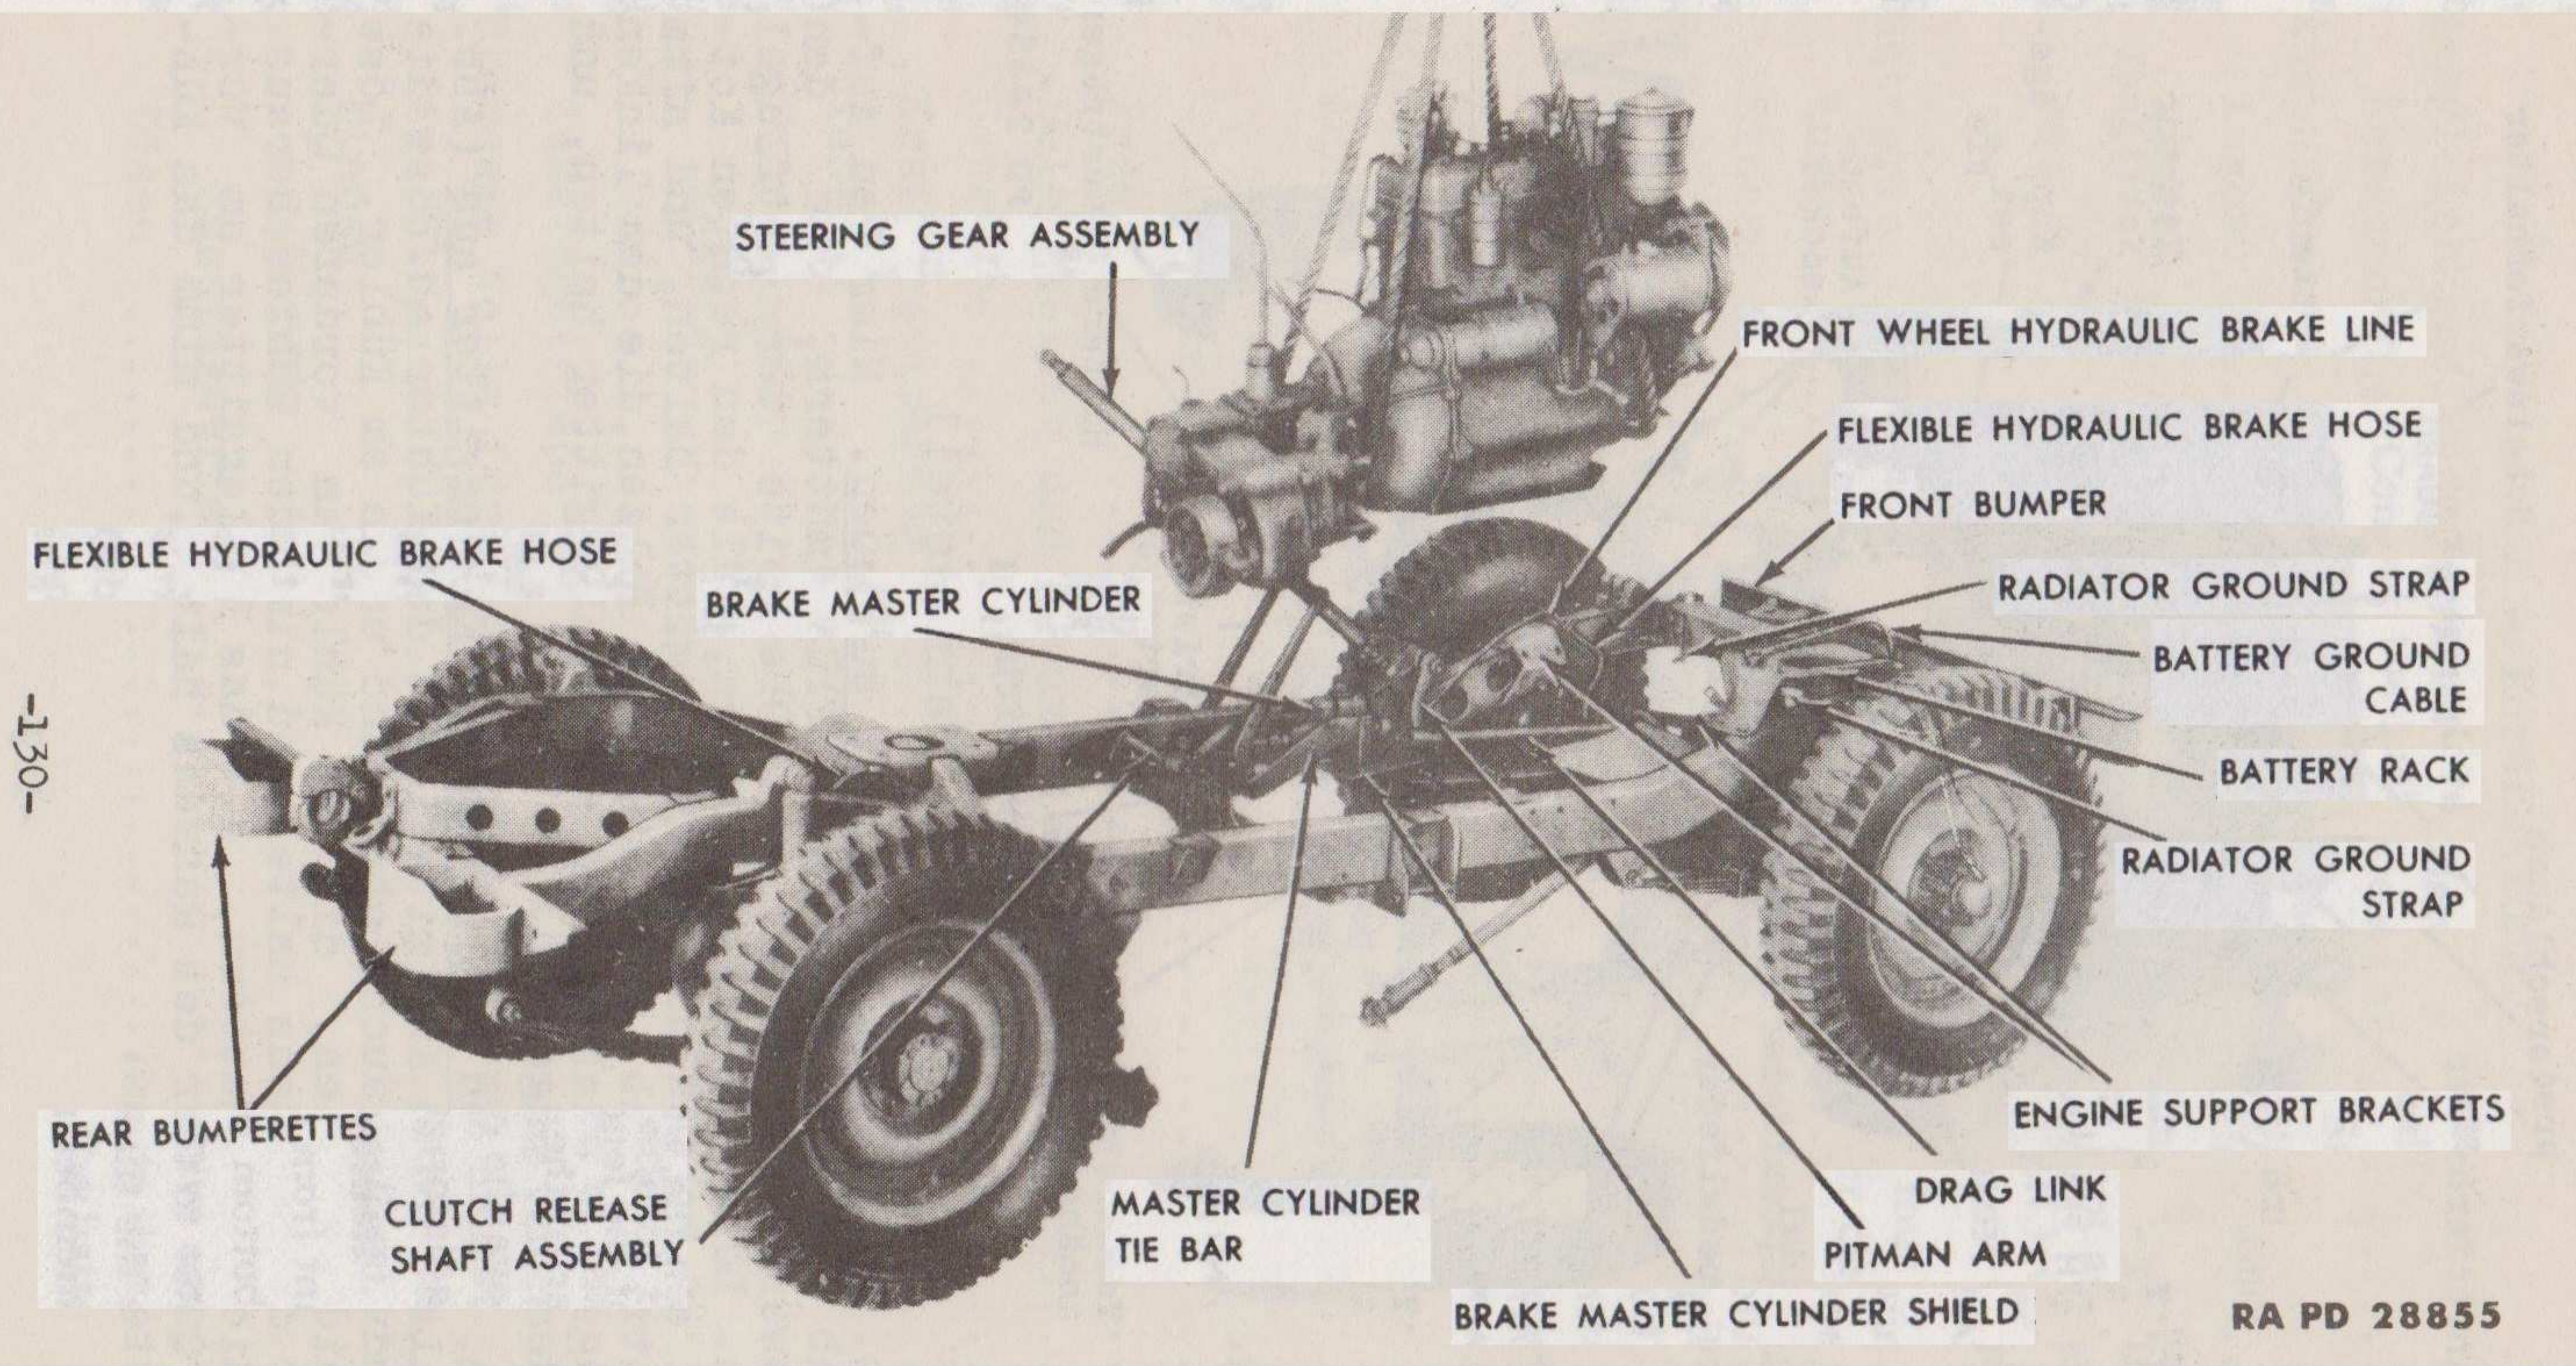

Figure 104 — Removing Engine From Chassis
(3) **CONNECT DRAG LINK** (fig. 104). With the front wheels in a straight ahead position, connect the drag link to the Pitman arm, making sure the ball socket on the Pitman arm is between the socket and ball seat (fig. 99). Tighten the socket plug and install the cotter pin. Tighten the three steering gear hold-down bolts at the frame.
f. Remove Front and Rear Bumpers (fig. 104). Remove the eight nuts and bolts that secure the two rear bumperettes to the rear crossmember of the frame and remove the bumperettes. Remove the four nuts and bolts that secure the front bumper bar to the frame and remove the bumper bar.
h. Remove Steering Gear Assembly (fig. 104). Disconnect the drag link at the Pitman arm. Remove the cap screw that secures the brake master cylinder shield to the master cylinder. Remove the three nuts and bolts that secure the steering gear assembly to the frame. Remove the steering gear assembly and master cylinder shield from the vehicle.
j. Remove Brake Master Cylinder (fig. 104). Disconnect the hydraulic brake line leading to the flexible connection at the forward
m. Remove Ground Straps (fig. 104). Remove the two radiator ground straps at the front crossmember of the frame. Remove the ground strap at the transmission support crossmember. Remove the battery ground cable at the front crossmember.
a. **Install Ground Straps** (fig. 104). Install the two radiator ground straps at the front crossmember of the frame. Install the ground strap at the transmission support crossmember. Install the battery ground cable at the front crossmember.
d. **Install Brake Master Cylinder** (fig. 104). Install the lock plate that secures the hydraulic brake flexible hose to the center crossmember of the frame. Connect the hydraulic brake line at the flexible connection on the center crossmember. Install the two bolts that secure the hydraulic brake master cylinder to the side of the frame. Install the brake line leading from the rear wheels to the brake master cylinder. Install the lock plate that secures the brake flexible hose at the bracket on the frame. Install the brake line leading from the flexible hose to the master cylinder.
f. **Install Steering Assembly and Bleed Brakes** (fig. 104). Place the steering assembly in position on the frame. Install the three nuts and bolts that secure the steering assembly to the frame. Connect
g. Install Engine in Vehicle (fig. 104). Install a suitable lifting sling on the engine and place the engine in position on the frame. Move the rear of the engine slightly to the right-hand side so as to allow the ball joint on the transfer case to enter in the clutch release shaft. Install the two nuts and bolts that secure the engine mounts to the engine support brackets on each side of the frame. Install the two ground straps leading from the engine support brackets to the engine. Install the two nuts that secure the transmission to the transmission support crossmember. Install the ground strap leading from the transmission to the transmission support crossmember. Install the clevis pin that secures the clutch control cable to the clutch release shaft. Install the engine stay cable to the transmission support crossmember.
h. Install Front and Rear Bumpers (fig. 104). Place the front bumper in position on the frame. Install the four nuts and bolts that secure the bumper to the ends of the frame. Place the two bumperettes in position on the rear crossmember of the frame and install the eight cap screws that secure the bumperettes to the rear crossmember of the frame.